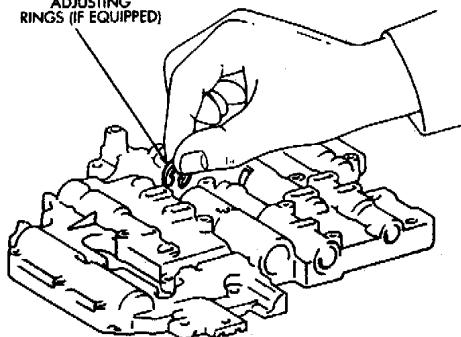

Fig. 17 Install Throttle Valve Adjusting Rings — If Equipped
- (12) On models with adjusting rings, turn upper body over and install adjusting rings (Fig. 17). Be sure to install same number of rings as were removed.